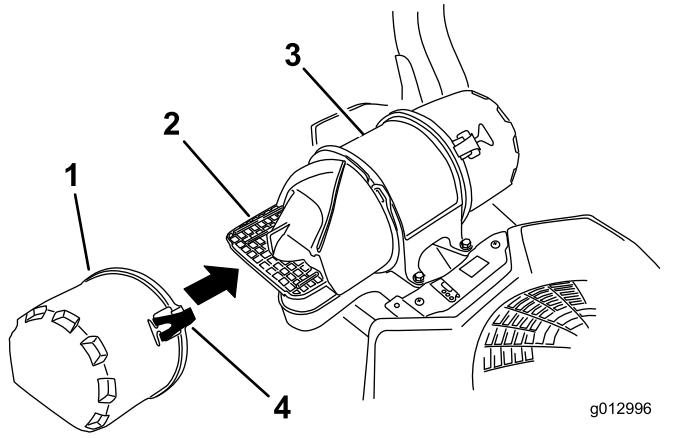

Figure 60
3. Release the latches on the air cleaner and pull the air-inlet cover off the air-cleaner body (Figure 60).
5. Install the air-inlet cover and secure it with the latches (Figure 60).